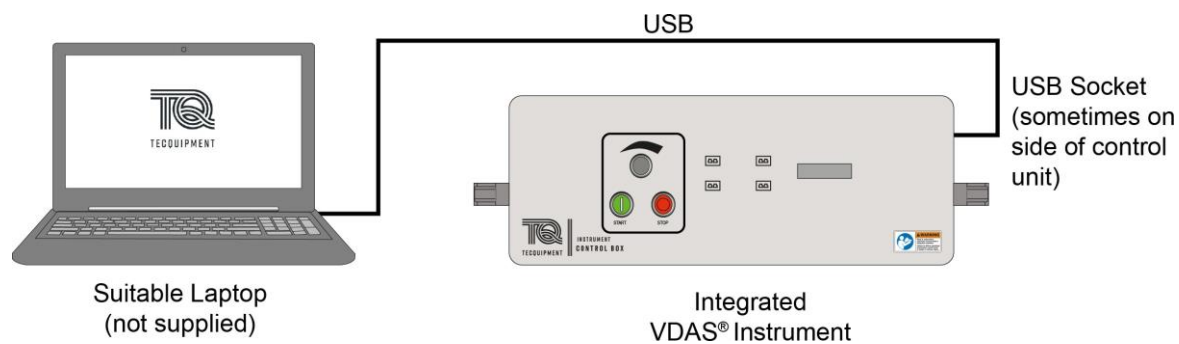

Figure 12 Typical System Connections for Integrated-VDAS
1. Figure 12 shows typical connections for Integrated-VDAS®.